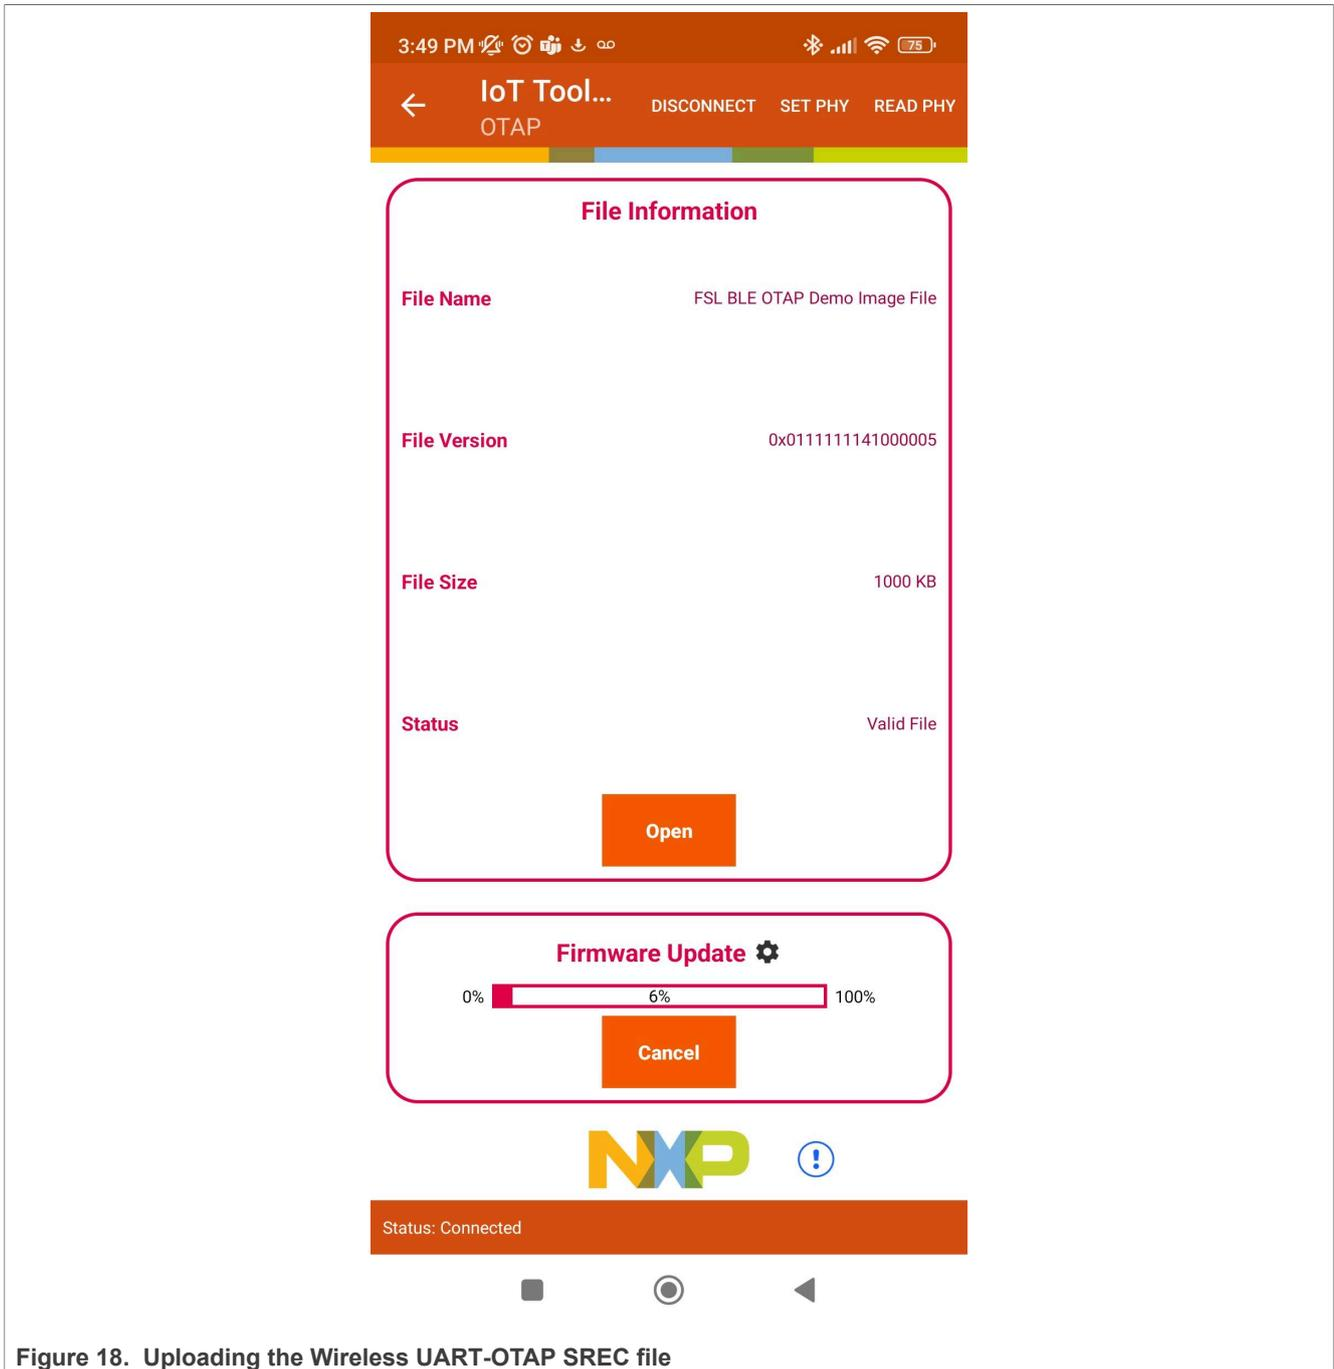

Figure 18. Uploading the Wireless UART-OTAP SREC file
5. Click **Upload** to start the transfer. Wait until the confirmation message is displayed. See Figure 18.